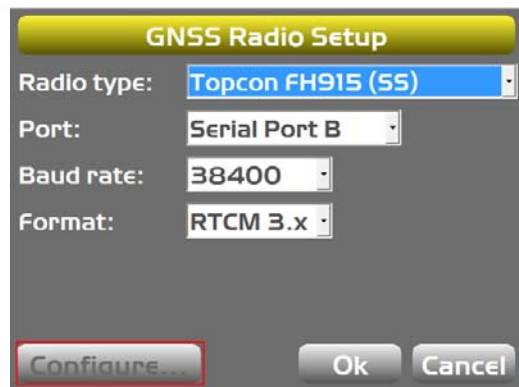

Figure 21: Configuring Your Radio Channel
2. On the **GNSS Radio Setup** screen, select your radio type and tap **Configure** (if available) to run the radio setting program (Figure 21). The configuration screen for your board type appears.